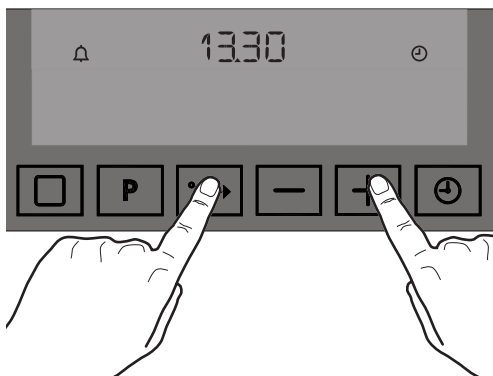

Fig. 20
1. Press control  and  at the same time for approximately 2 seconds (Fig. 20). The Electronic Control beeps once.